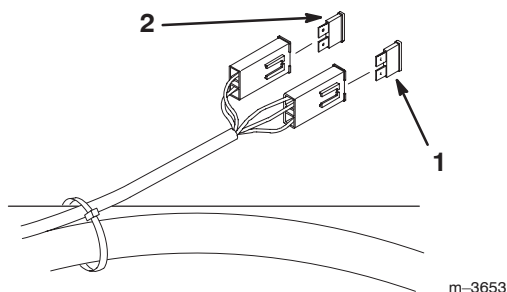

Figure 62
1. Unlatch the seat and raise the seat to gain access to fuse holder (Fig. 62).
3. Install a new fuse (Fig. 62).